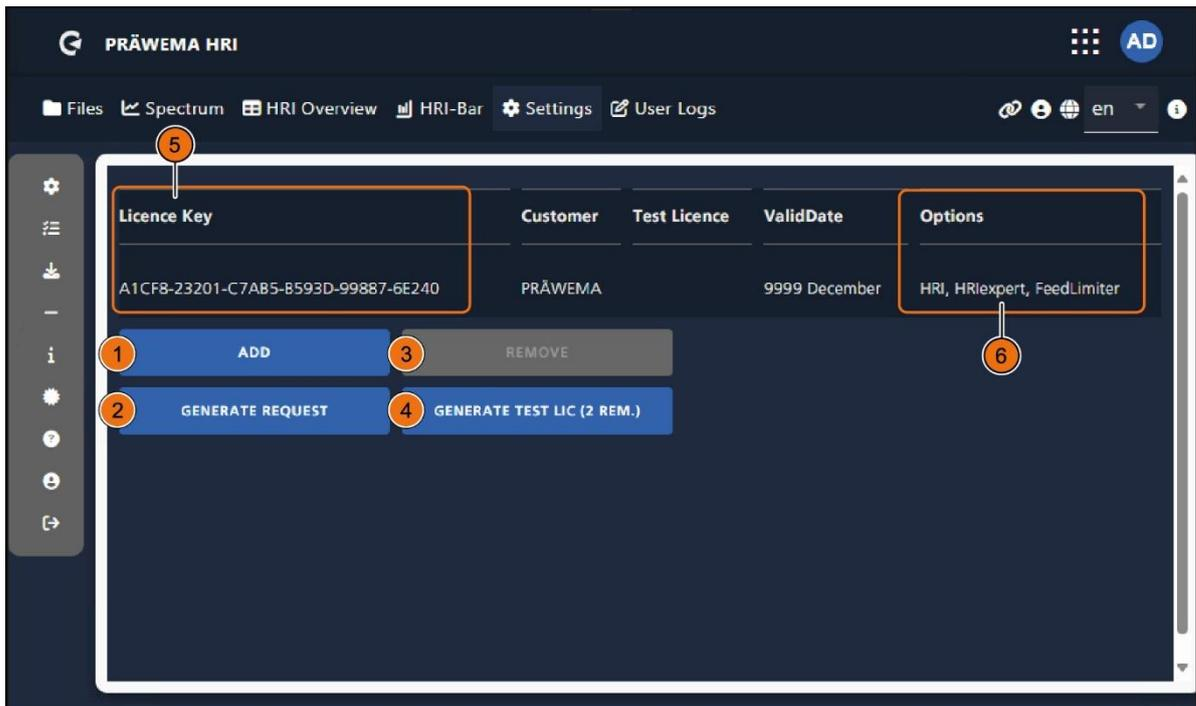

Fig. 39 License management menu
To install additional licenses select the *ADD* button (fig. 39, pos. 1).
To create the LRQ file, select the *GENERATE REQUEST* button (fig. 39, pos. 2).
To generate a test license, select the *GENERATE TEST LIC* (fig. 39, pos. 4).